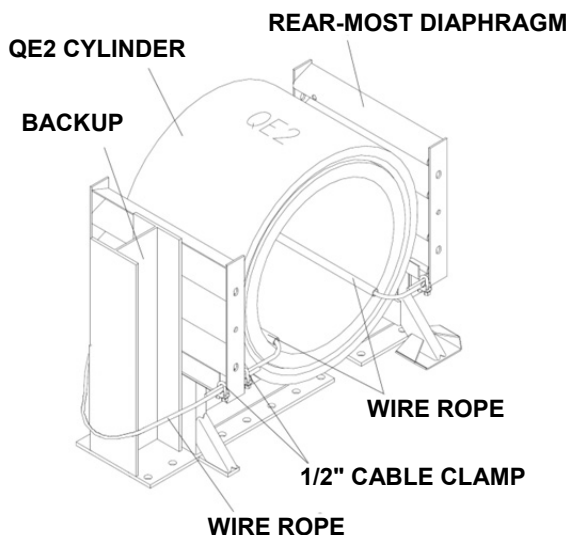
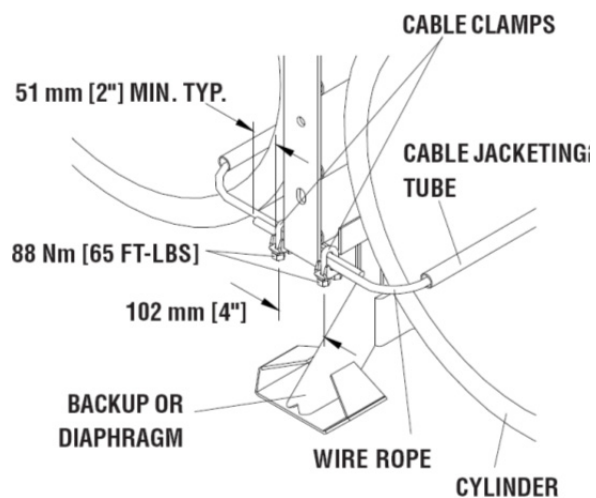

Figure 20
Figure 21
Beginning at the Backup, locate and position a Cylinder such that it is centered resting on the Monorail. Slide the rear-most Diaphragm towards the Cylinder such that no gaps exist between the backup, the Cylinder, and the Diaphragm. Wrap the 13 mm [1/2"] diameter wire rope around the back face of the Backup structure, the Cable Jacketing Tube, and the center of the Cylinder as shown in Figure 20. Attach ends of cable using (2) 13 mm [1/2"] Cable Clamps as shown in Figure 21. The Cable Clamps should be separated by approximately 102 mm [4"] as shown. Take any excess slack out of the cable prior to tightening the Cable Clamps evenly and torque nuts to 88 N-m [65 ft-lb].
Continue attaching the Cylinders to their common Diaphragms using the 1/2" cable, Cable Clamps, and Cable Jacketing Tube as shown in Figure 21. Work forward from the Backup. Be sure to remove any clearance between the Cylinders and their adjacent Diaphragms prior to removing all the possible cable slack and tightening the Cable Clamps. Except where otherwise noted, the Cable Jacketing Tube should be centered within the length of the Cylinders as shown to prevent the cable from damaging the Cylinders.